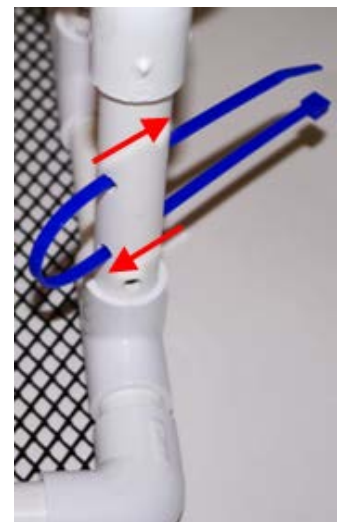

Figure 2.6-4: Tie Wrap Threaded Through Thruster-Mounting Holes
1. Thread a large, heavy-duty tie wrap through the two thruster-mounting holes at each of the three thruster locations, as shown in Figure 2.6-4.